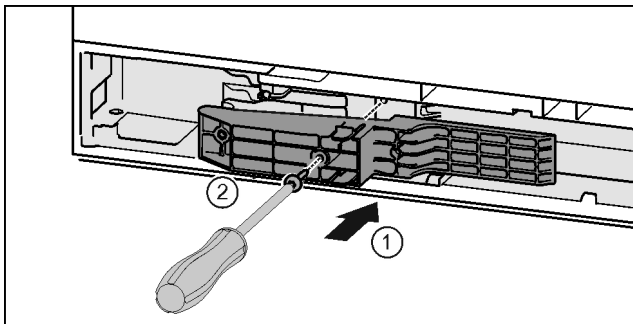

Fig. 45 \*
- ▶ Insert the adapter on the handle side in the recess. Fig. 45 (1)\*
- ▶ Tighten the screws using the T15 screwdriver. Fig. 45 (2)\*